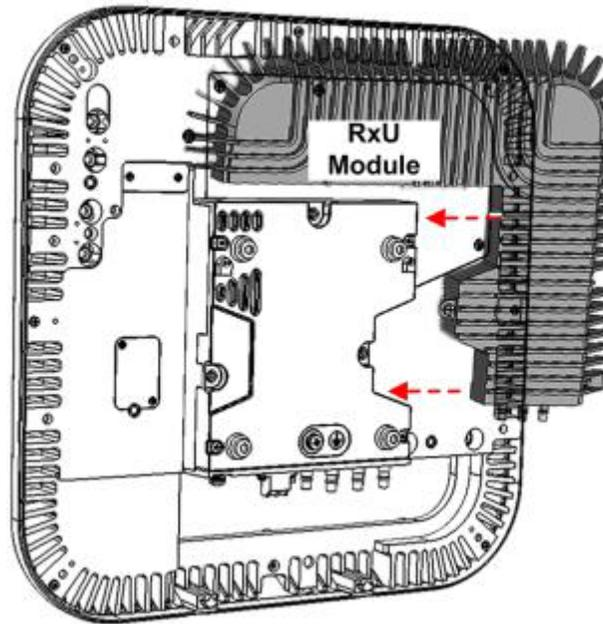

Figure 6-16. RxU Module Assembly
- A. Plug the RxU in to the right side of the RAU as indicated in Figure 6-16.